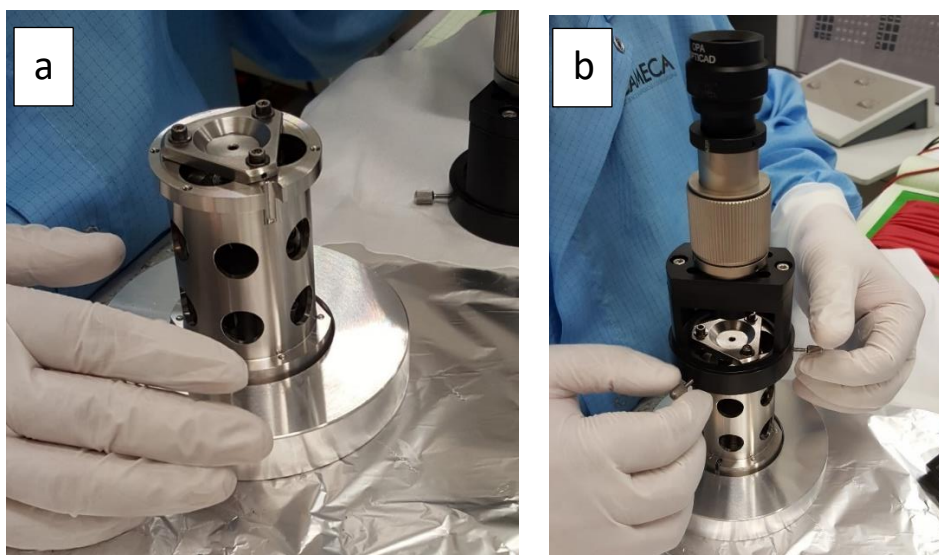

Figure 467: centering of the extractor on the Cs source
- Position the extractor without screwing it (Figure 467 a).
- Place the centering microscope on the top of the rest (Figure 467, b).